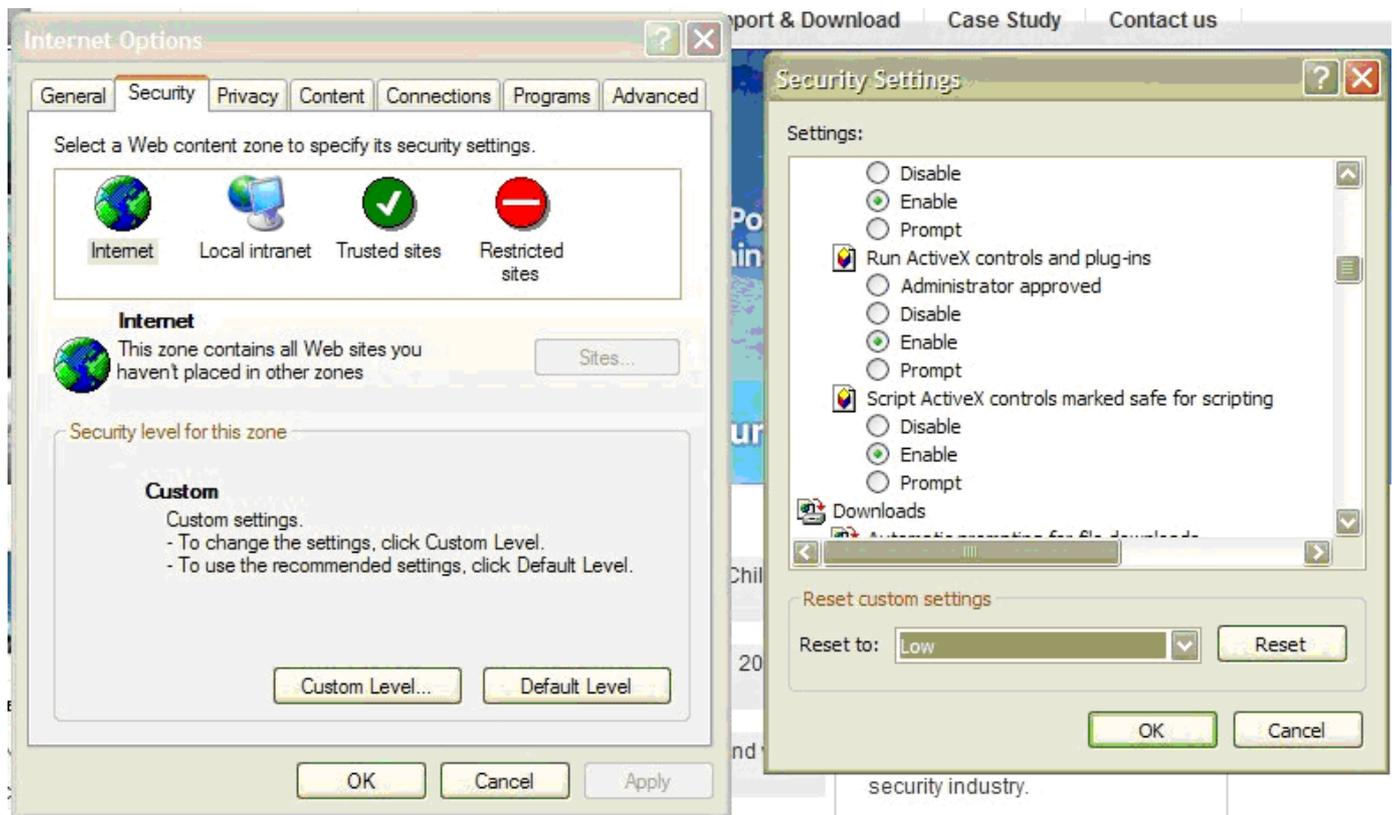

Figure 3-2-1 Set the Security Level
**[Notice] Before watch the camera video through web browser, user should set the security level. Open the web browser, and enter the menu “Tool/ internet option/Security/Custom level”, then set the security level to Security Level –Low, or enable ActiveX Control and the Plug-in directly. Figure 3-2-1 gives you a visual illustration. After you can see the camera video, set the security level to the default level for security.**